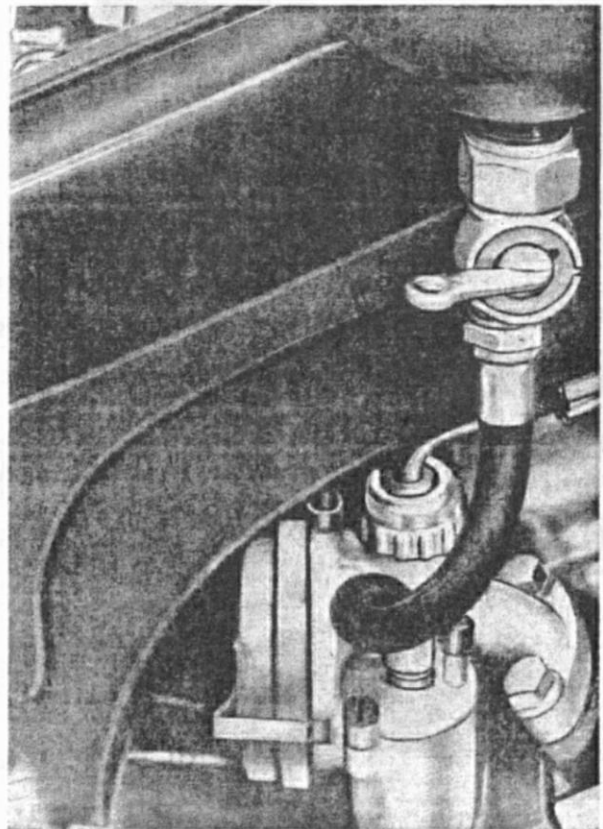
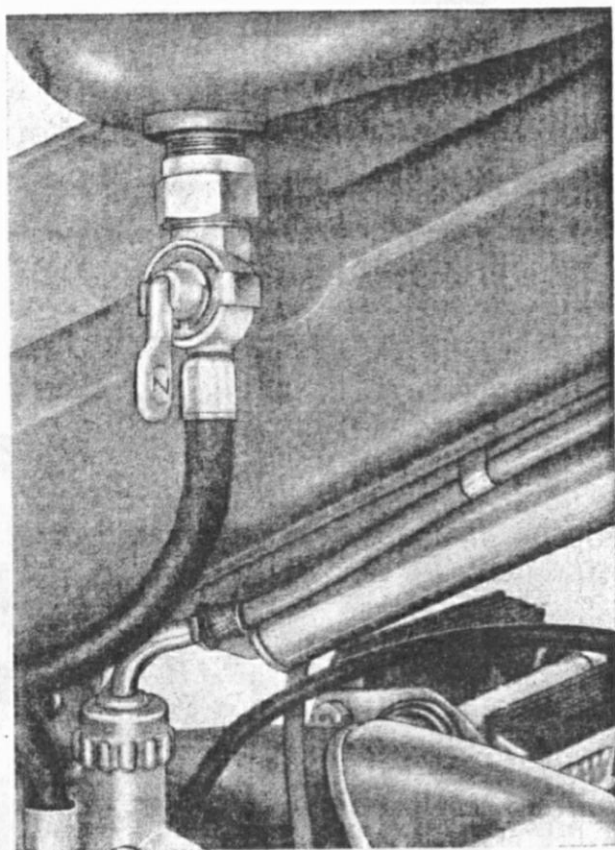

Fig. 4: Fuel cock in "Reserve" position
Fig. 12: Fuel cock in "On" position
8. Fuel cock (Fig. 4)
In the right-hand bottom of the fuel tank. Positions: "Off" (Fig. 16), "On" (Fig. 12), and "Reserve" (Fig. 4). You can go 8—10 km (5—6 miles) on the fuel reserve.
A. Open fuel cock (Fig. 12).